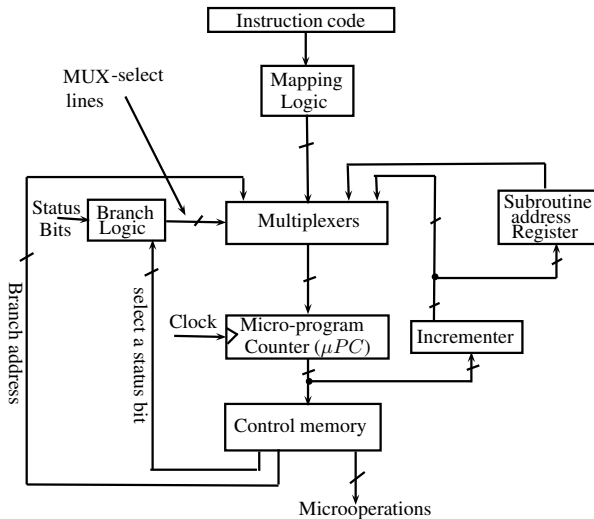

Figure 7: Selection of address for control memory.
2. The system shown in figure 7 uses a control memory of 1024 words of 32 bits each. The microoperations field has 16-bits.
3. The control memory shown in figure 7 has 4096 words of 24 bits each.